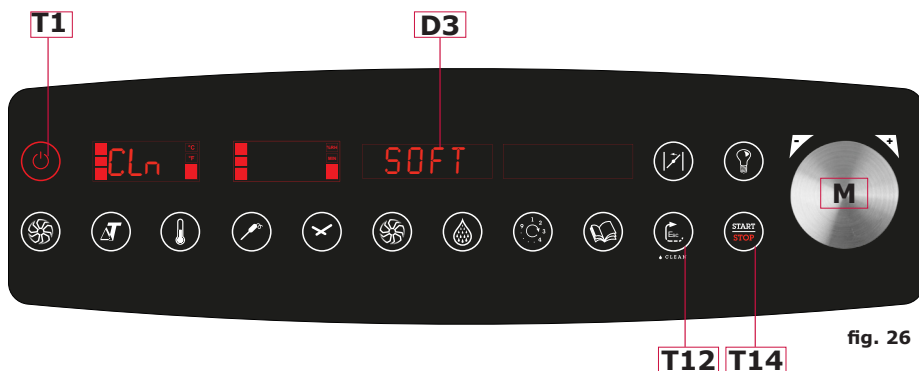

fig. 26
- Once the appropriate type of wash has been selected, press key **T14** (fig. 26) to start automatic washing. **Washing only works with the door closed.**
During washing, the display **D3** (fig. 26) will show the following phases: